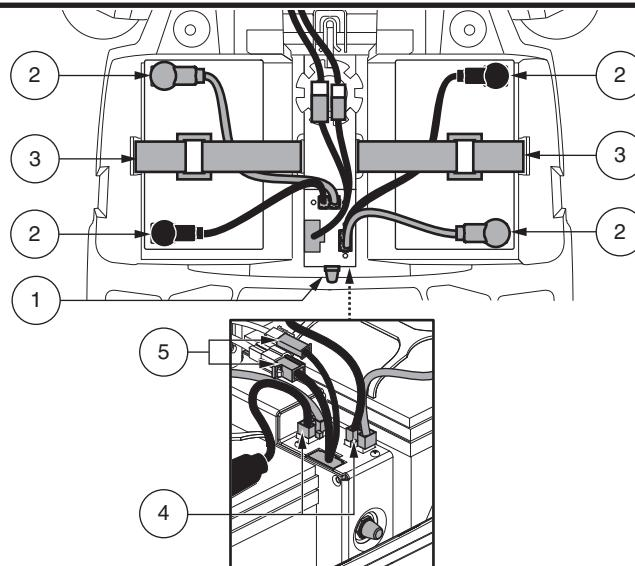

Figure 10. Battery Removal/Installation Terminals and Connections
2. Disconnect the battery tie-down strap. See **figure 10**.
3. Disconnect the battery harnesses by depressing the tabs on the battery harness connectors and pulling them straight up. See **figure 10**.
6. Place a new battery in each battery well. Face the battery terminals of each battery opposite each other and toward the outer sides of the scooter. See **figure 10**.